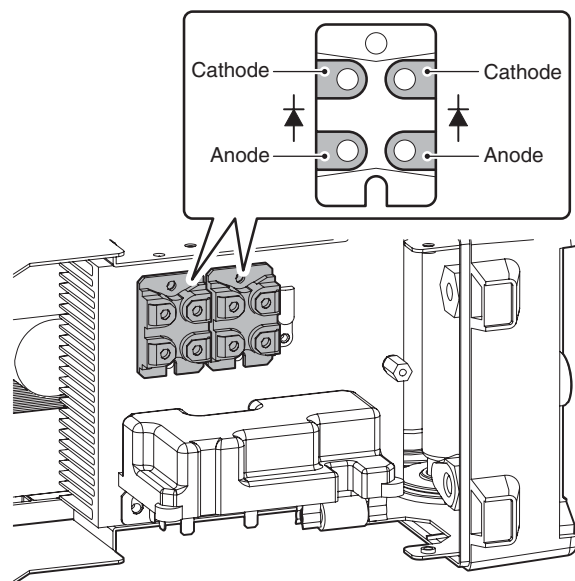

Figure 6-15: Tester checkpoints for D2 and D3
- 2) Refer to Table 6-6 and Figure 6-15 for the checkpoints on D2 and D3.